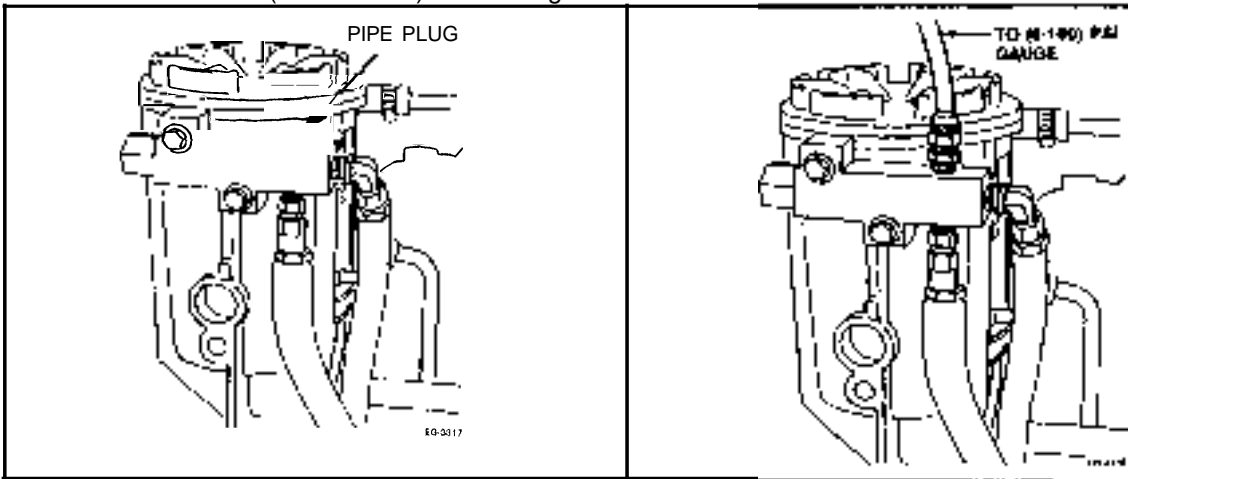

Figure 2.3-10. - Fuel Pressure Tap Location
1. Remove 1/8" pipe plug located on the fuel regulator block. (Figure 2.3-10.) Install 1/8 inch (3 mm) pipe fitting in place of the pipe plug.
2. Connect a line (Figure 2.3-10.) from the fitting to the 0-160 PSI gauge of the Model D-200 Pressure Test Kit (ZTSE-2239). Start engine